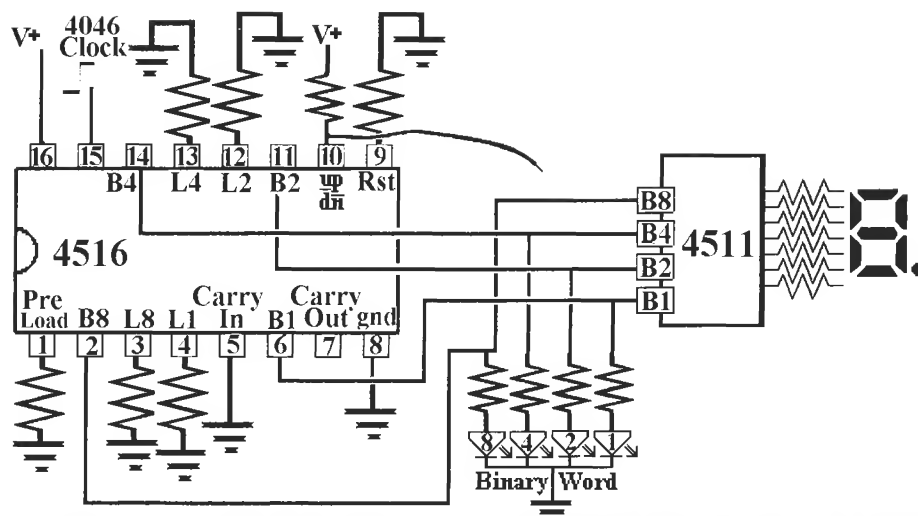

Figure L41-6
- The reset. Use a wire probe and momentarily touch the reset input to voltage as shown in Figure L41-6.